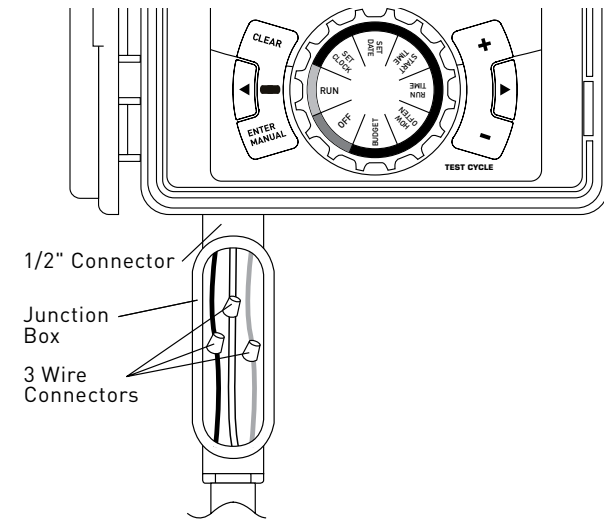

Figure 5: Using a Junction Box
Outdoor Locations – If a covered Ground Fault Interrupter (GFI) outlet is available, insert the power cord into the 110 volt outlet. If no outlet is available, the controller must have the wiring permanently installed (*see figure 5)
- Connect the junction box to the controller using a ½” nipple (Junction box and nipple not included). [See Figure 5] Connect the source power conduit to the entrance of the junction box, following all the appropriate codes.